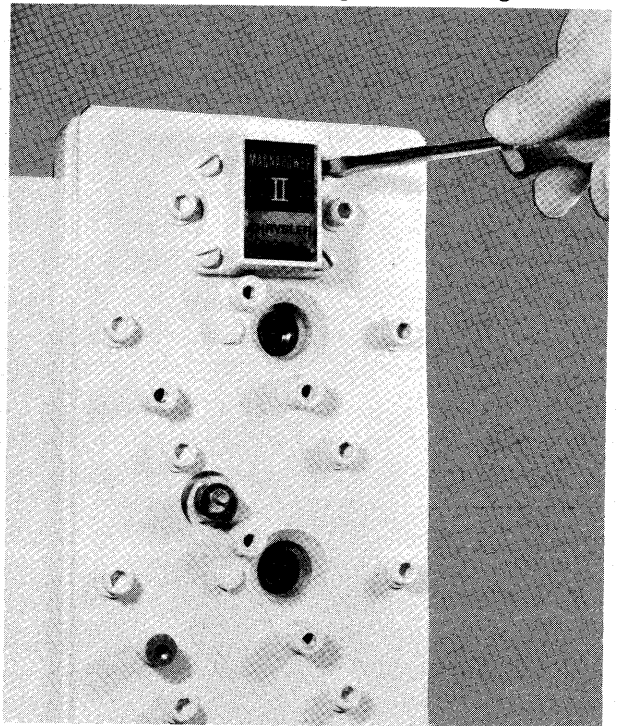

Figure 1A - Removing Thermostat
- A. Remove four (4) screws securing thermostat cover to cylinder head. Remove thermostat cover and gasket. See figure 1A.